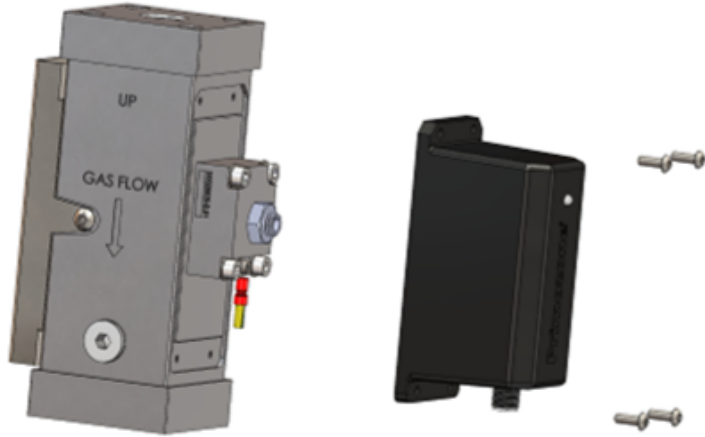

Figure 9 | Removing the screws for the plastic sensor housing.
1. Use an Allen wrench to remove the screws for the plastic housing. See Figure 9 ► 15.